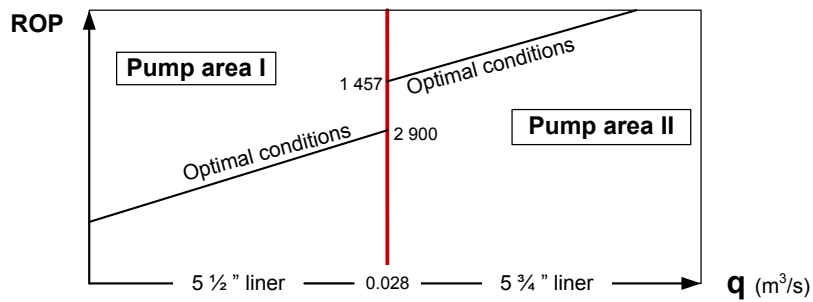
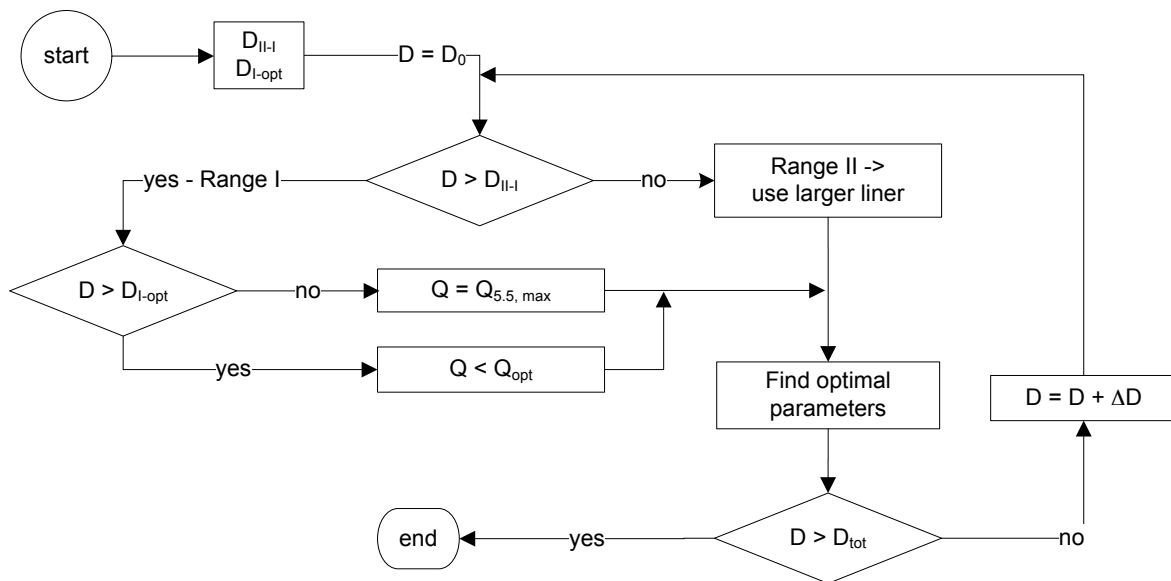

Figure 4-7.1: Boundary area between pump area II and I
Figure 4-7.2: Flow chart of estimating hydraulic parameters while in the boundary zone between the pump area ranges.
a) Find first what working area prevails in the boundary zone between pump area II and I, which are valid as indicated in Figure 4-7.1. Area II ends with the 5.75” liner when $q_{max, 5.5}$ is reached:
b) In Figure 4-7.1 we see the division between the two pump areas. A preliminary solution of how to distinguish between them is given in Figure 4-7.2, its upper part.